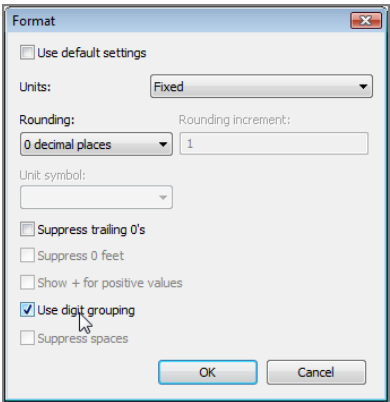

FIGURE 11.37: Overriding the units to allow this field to round
13. Deselect Use Default Settings, as shown in Figure 11.37.
16. Select Use Digit Grouping (see Figure 11.37).